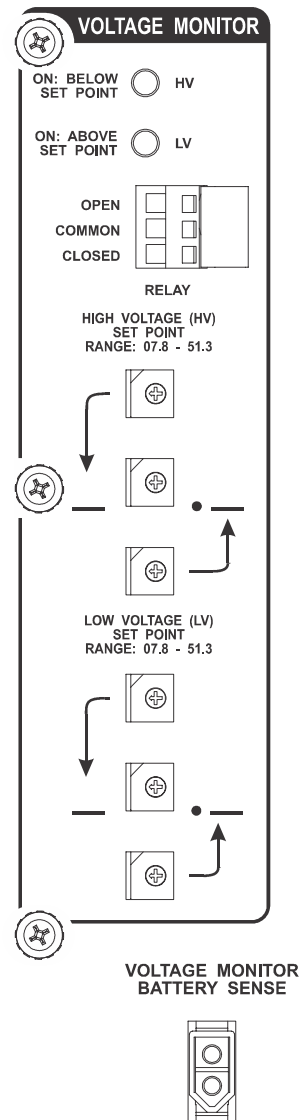

Figure 10.1
The ELC-12/20-CVM-D battery charger includes an integrated voltage monitor/alarm that monitors the DC voltage. Unless the optional VOLTAGE MONITOR BATTERY SENSE input available on the front of the charger is remotely wired to the terminals of the battery, the DC voltage is monitored internally at the charger output. If the DC voltage rises above the HIGH VOLTAGE (HV) SET POINT setting, the green BELOW HV SET POINT LED indicator is turned off and the Form C, dry contact alarm relay is actuated. If the DC voltage falls below the LOW VOLTAGE (LV) SET POINT setting, the green ABOVE LV SET POINT LED indicator is turned off and the Form C, dry contact alarm relay is actuated. The voltage set point switches, LEDs, relay terminals, and optional battery sense input are accessible on the front of the charger (see Figure 10.1).
The HIGH VOLTAGE (HV) SET POINT setting is adjustable with three (3) rotary switches and the LOW VOLTAGE (LV) SET POINT setting is adjustable with three (3) rotary switches, all of which are available on the front of the charger (see Figure 10.1). For both settings, the top switch sets the tens of volts, the middle switch sets the volts, and the
The voltage monitor/alarm includes an optional VOLTAGE MONITOR BATTERY SENSE input available on the front of the charger (see Figure 10.1). If the VOLTAGE MONITOR BATTERY SENSE input is left disconnected, the DC voltage is monitored internally at the charger output. The VOLTAGE MONITOR BATTERY SENSE input can be remotely wired to the terminals of the battery to monitor the voltage at this point. The voltage monitor/alarm detects when the VOLTAGE MONITOR BATTERY SENSE input is connected to the battery terminals and automatically monitors this DC voltage instead of the voltage at the charger output. Please refer to the wiring diagram in Section 15 for the VOLTAGE MONITOR BATTERY SENSE input connector detail.